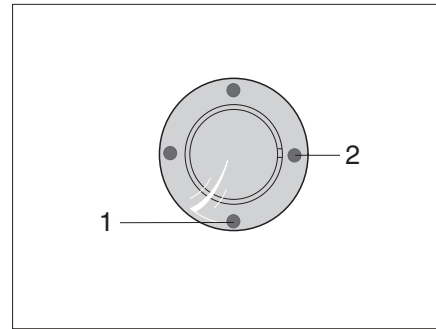
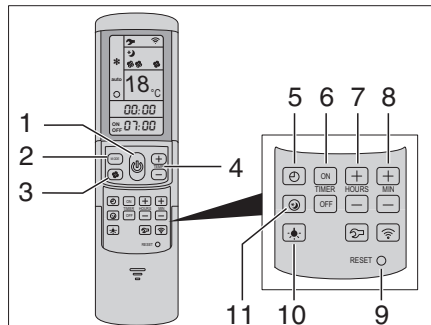

Fig. 303 Infrared receiver/function display
Fig. 304 Remote control
The air conditioning unit is located on the roof of the vehicle. The remote control (Fig. 304) for the air conditioning unit is located in the kitchen area.
- Connect the vehicle to the 230 V power supply. The air conditioning unit is ready to operate. The blue LED (Fig. 303,1) lights up.
- To switch on press the button (Fig. 304,1) on the remote control. The blue LED (Fig. 303,1) flashes.
- Set the desired operating mode using the MODE button (Fig. 304,2).
- If necessary, set the desired fan level by using the button (Fig. 304,3) and the room temperature by using the buttons (Fig. 304,4).
When the temperature set on the remote control is reached, the blue LED (Fig. 303,1) goes out, the compressor switches off and the circulation fan continues to run.
- To switch off press the button (Fig. 304,1) on the remote control again.
- To carry out programming, switch on the air conditioning unit by using the button (Fig. 304,1) on the remote control.
- Set the desired operating mode by using the button (Fig. 304,2) and the room temperature by using the buttons (Fig. 304,4).
- Use the buttons (Fig. 304,6) to select the desired function:
- Use the buttons (Fig. 304,7 and 8) to select the desired switching time (15 minutes to 24 hours).
- Confirm the setting with the buttons "ON" or "OFF" (Fig. 304,6).